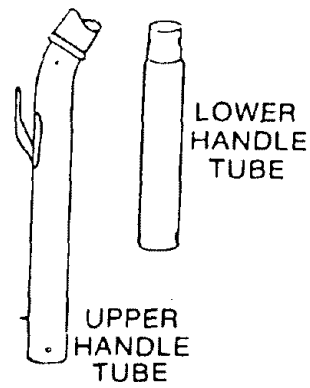
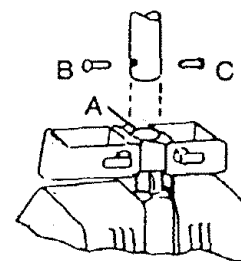
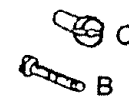

FIG. 1
FIG. 2
FIG. 3
1. Place lower handle tube (Fig.1) into handle tube socket "A" (FIG.2). Fasten using bolt "B" and internally threaded nut "C" (FIG.3) provided in the hardware package.
2. Place upper half handle tube (FIG.1) over lower half. Align holes and fasten with remaining bolt "B" and internally threaded nut "C".